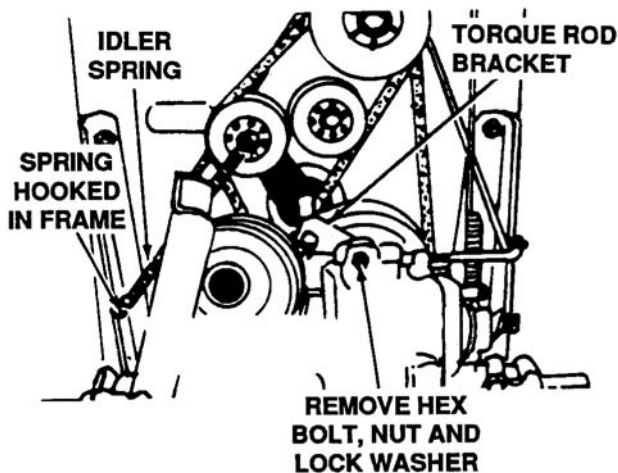

Figure 7-13. Torque Rod Bracket and Transaxle
4. Unhook the idler spring from the rider frame. See Figure 7-13.